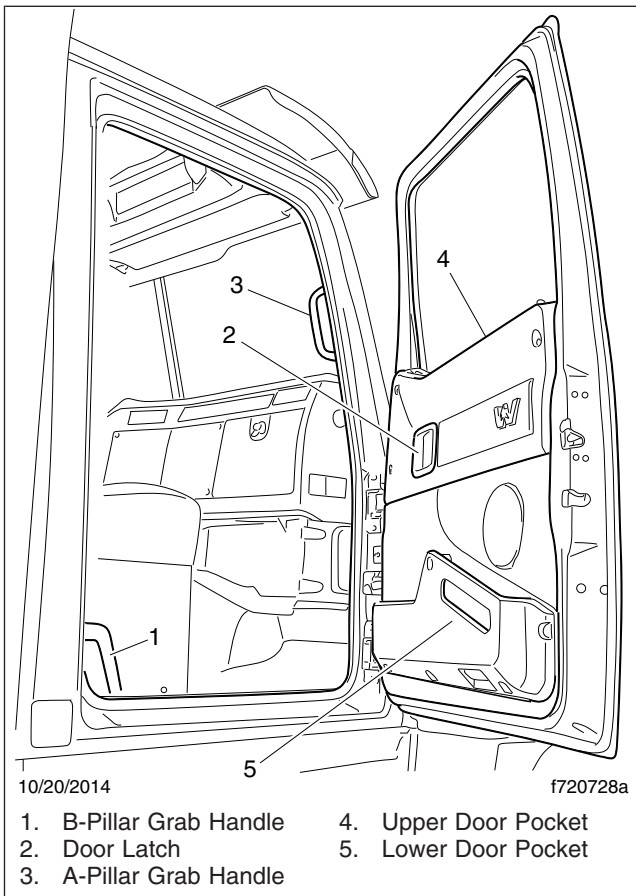

Fig. 2.4, Passenger-Side Cab Access
2. Grasp the B-pillar grab handle with your left hand. See Fig. 2.4.
1. Grasp the A-pillar grab handle with both hands, then place your right foot on the top step while facing inward. See Fig. 2.4.